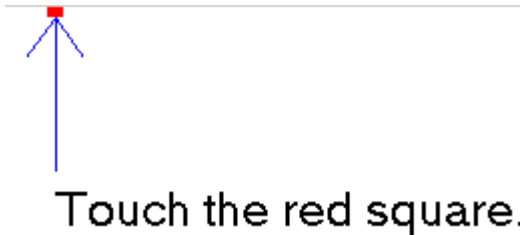

Figure 6-11: Calibration Screen
Step 10: The calibration screen in is shown. See **Figure 6-11**.